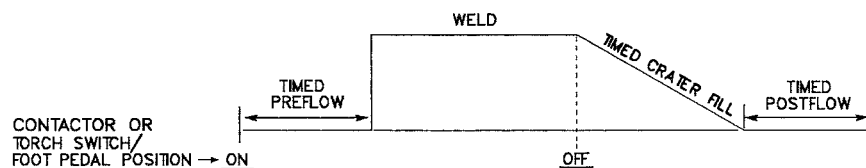

Figure 3-4 Trigger Hold Off
5. Trigger Hold ON/OFF Switch — With the trigger hold in the OFF position (see Figure 3-4), the operation is standard. When the contactor is closed, either by placing the output contactor in LOCAL or placing the torch/foot switch in ON position, the power source goes through a timed preflow and then begins to weld. It will continue to weld until the contactor or torch/foot switch is put in the OFF position. The TIGWAVE[®] will then go through a timed crater fill and postflow, if required, to end the cycle.